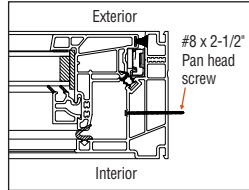

fig. 10
- Pre-drill 1/8" holes in the location shown on **fig. 10**.
- Fasten the window through the main frame in the location shown on (**fig. 10 & 11**) with #8 x 2-1/2" Pan head screws.